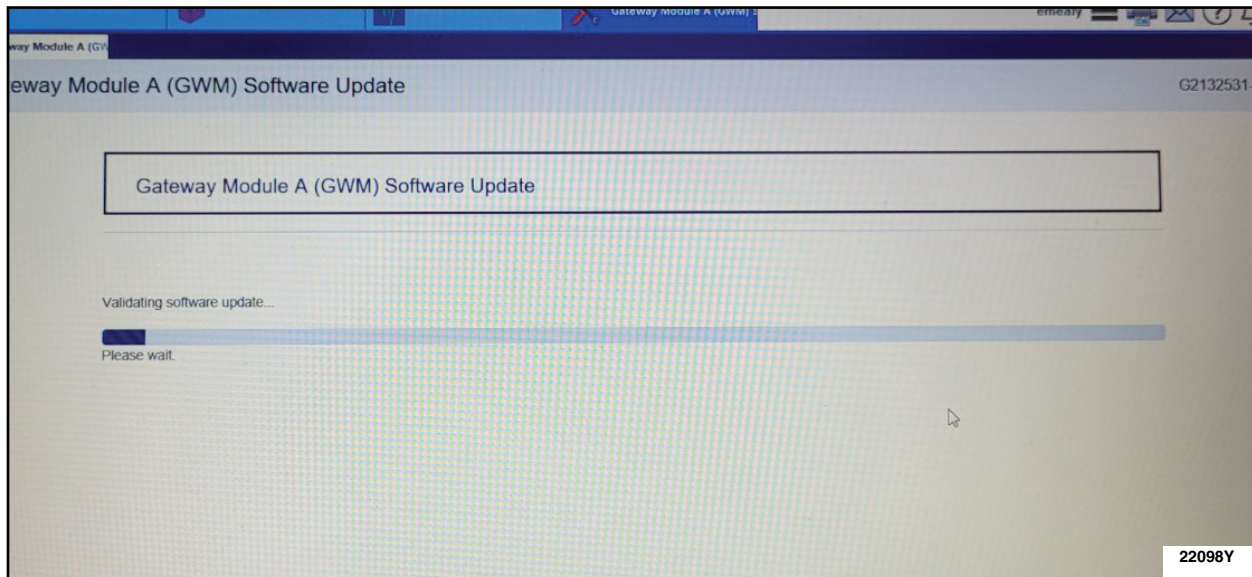

FIGURE 23
25. On the FDRS screen wait for the validating software process to finish. See Figure 23.